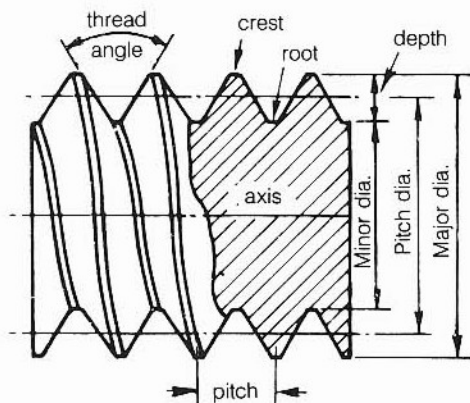

Figure 2 Thread terms
The pitch (P) is the distance from a point on one thread to the corresponding point on the next thread, measured parallel to the axis. (Fig. 2.)